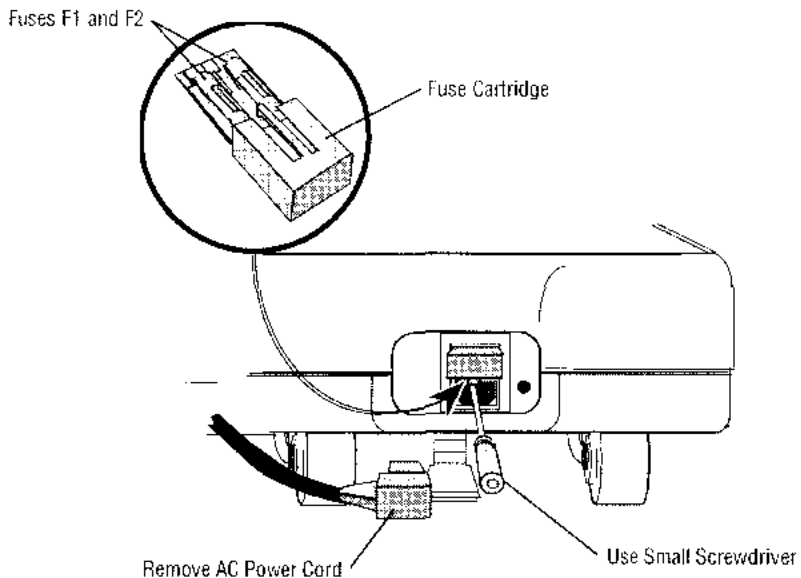

Figure 8-2. Fuse Location
1. Disconnect AC power cord from wall receptacle and table base input (see Figure 8-2).